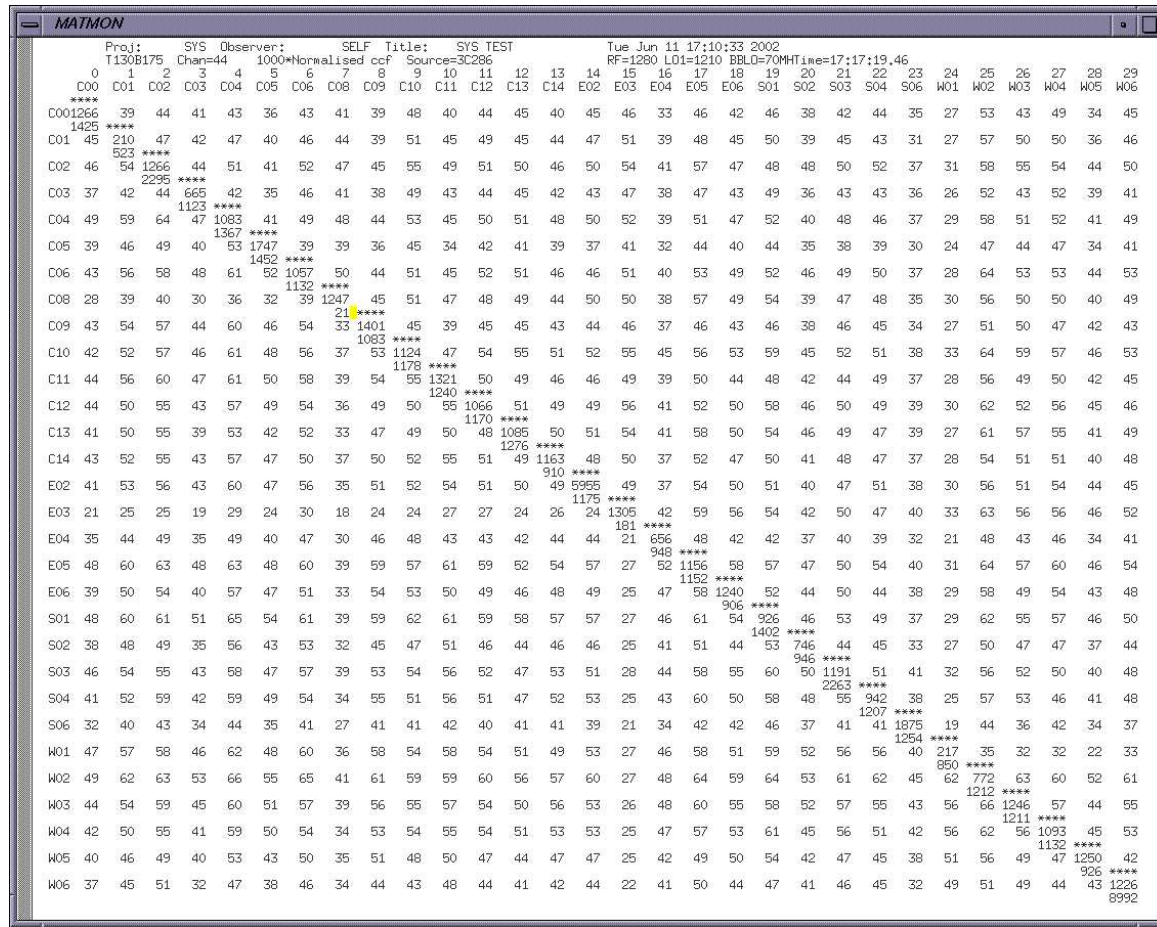

Figure 4: An example of all healthy antenna.
- (c) Figure 4: Something that an astronomer would love to see. This is an example where all antennas are healthy. User should compare the cross-correlation shown in this figure (Figure 4) with the one that is theoretically expected using above relation.